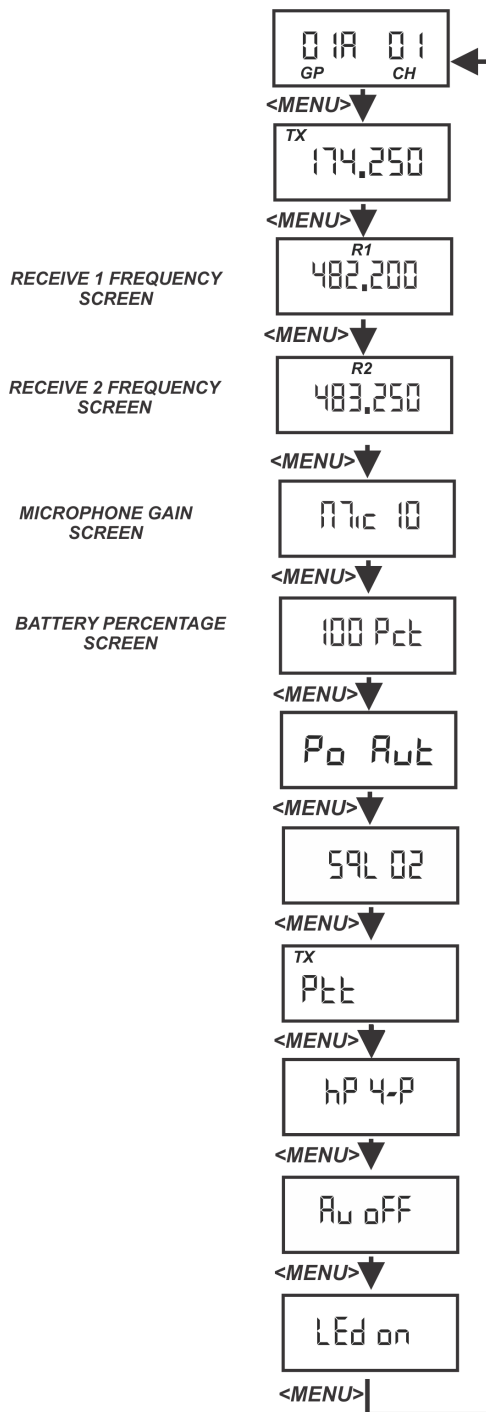

FIGURE 74. Receive Frequencies
1. Set the **unit** to the desired user-defined group and channels. *See Groups and Channels Instructions. The menu structure in Figure 74 indicates how to get to the receive frequency screen.*